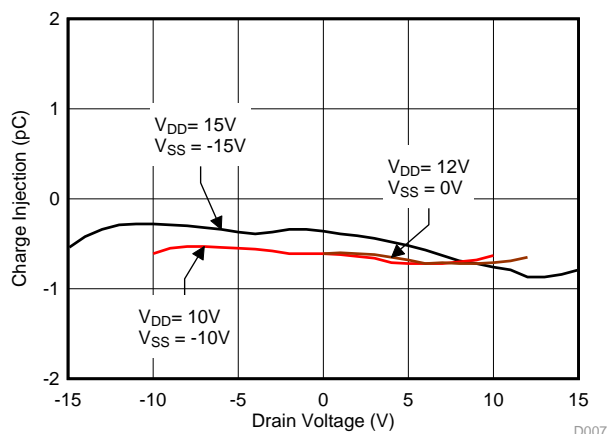

Figure 31. Charge Injection vs Drain Voltage
The TMUX6136 utilizes special charge-injection cancellation circuitry that reduces the drain (D)-to-source (Sx) charge injection to as low as  $-0.4$  pC at  $V_S = 0$  V, as shown in Figure 31.